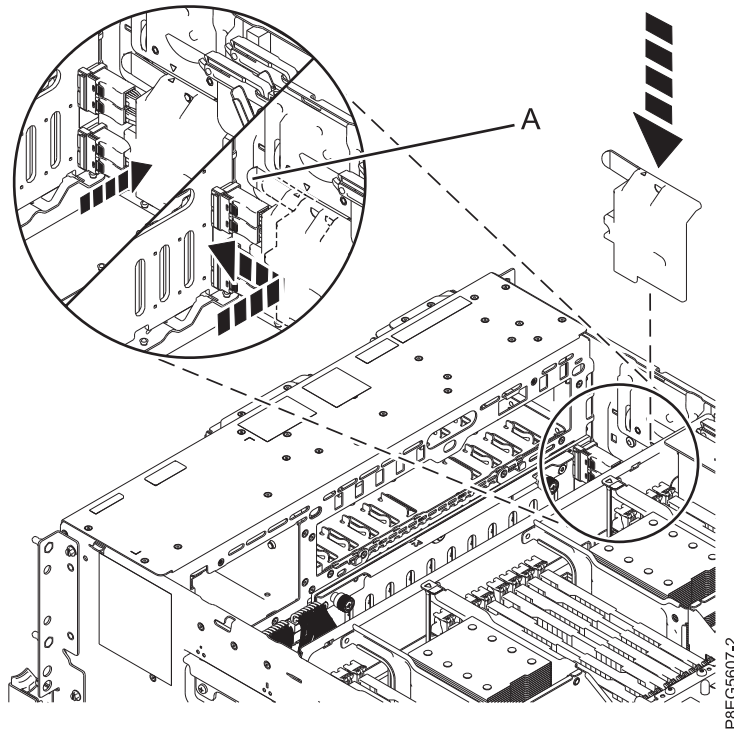

Figure 20. Replacing the SAS cable cover
7. Replace the SAS cable cover. Place the cover slots onto the pins on the side of the chassis. The triangle symbol on the SAS cable cover lines up with the triangle symbol on the side of the chassis when the cover slots and pins are aligned correctly. Push the cover forward toward the front of the system until the handle (A) latches in place. See Figure 20 on page 21.